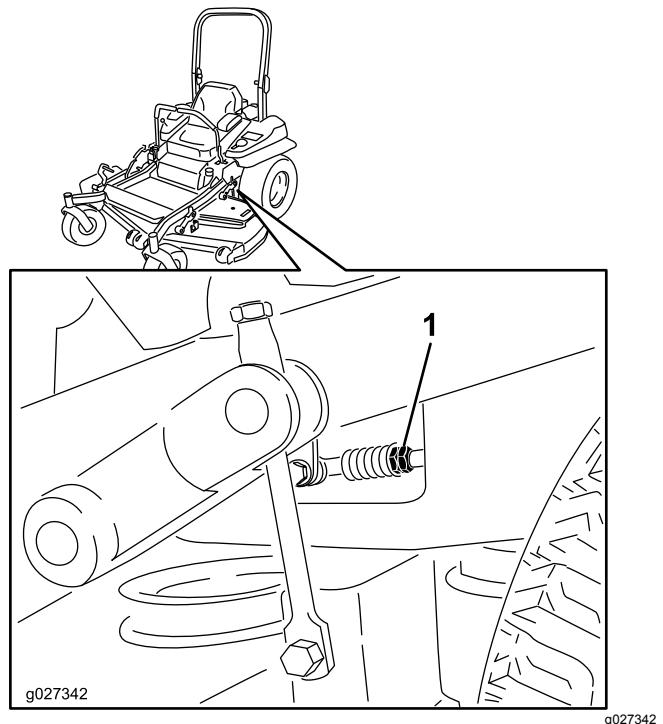

Figure 83
- Adjust the pump control rod lengths by rotating the double nuts on the rod in the appropriate direction until the wheels slightly creep in reverse (Figure 83).